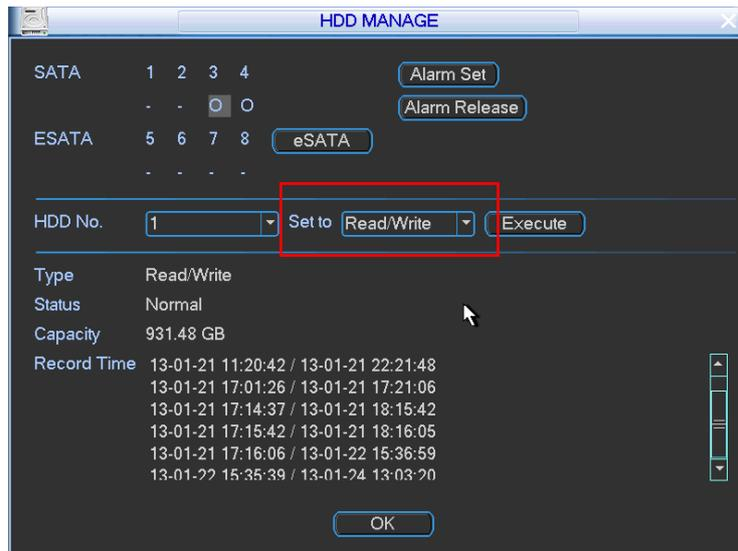

Figure 4-61
In the main menu, from Advanced to HDD management, you can set one or more disk(s) as redundant. You can select from the dropdown list. See Figure 4-61. System auto overwrites old files once hard disk is full.
- Set redundant disk(s) as read-only disk or read-write disk (Main menu->Advanced->HDD management). See Figure 4-61. System needs to reboot to get setup activated. Now you can search or playback file in redundant disk.